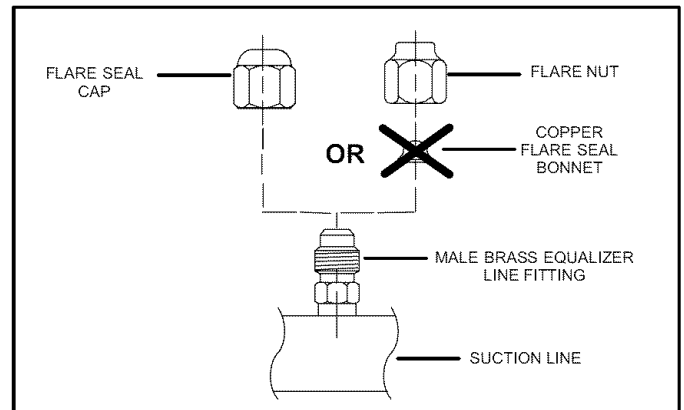

Figure 22. Copper Flare Seal Bonnet Removal
- Remove and discard either the flare seal cap or flare nut with copper flare seal bonnet from the equalizer line port on the suction line as illustrated in figure 22.